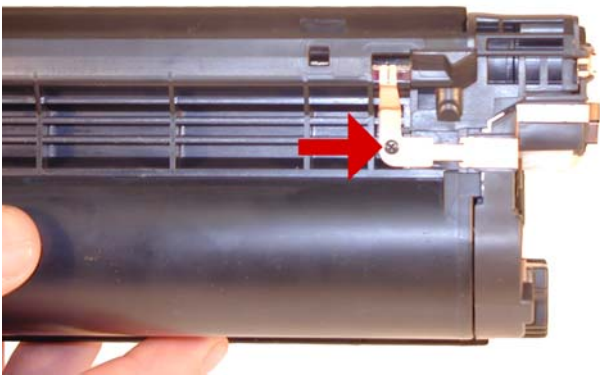

Figure 8
2) Remove the small black screw from the underside contact. See **Figure 8**